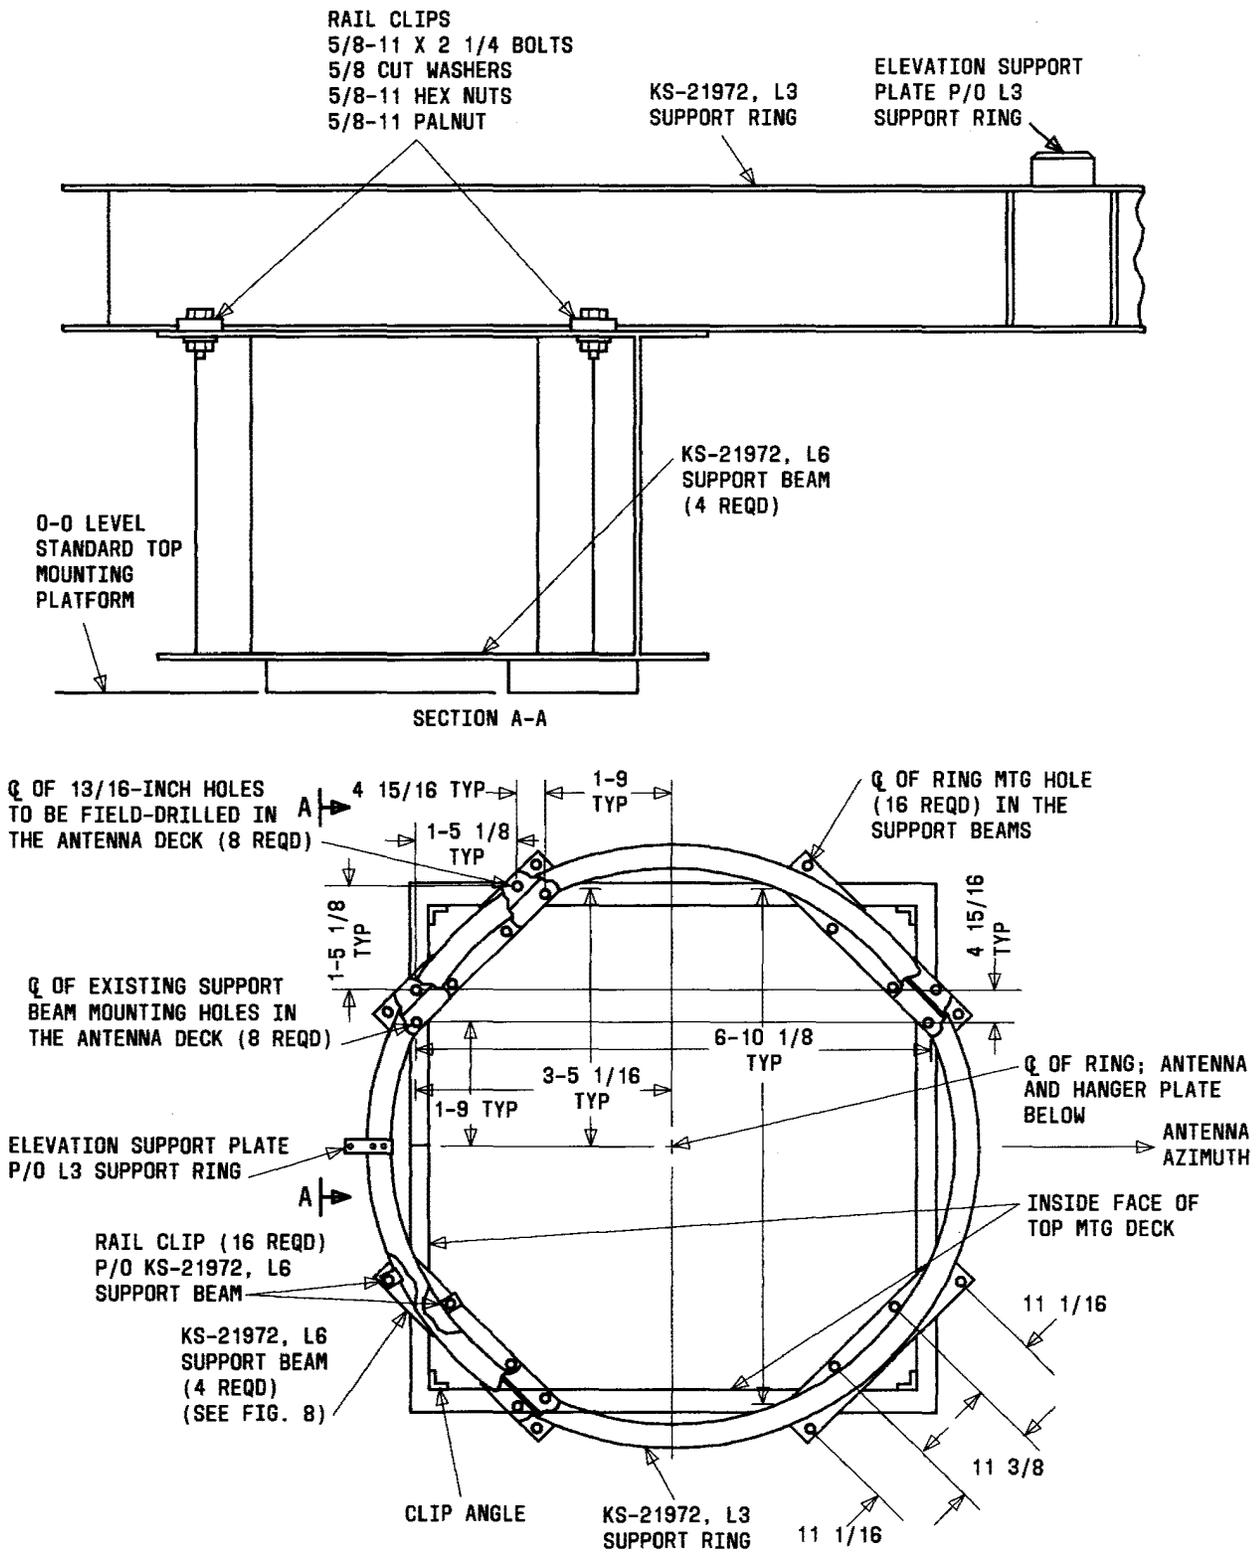

Fig. 9—Assembly of the KS-21972, L3 Support Ring to L6 Support Beams Mounted on a Top Antenna Deck
2.27 Hoist the support beams (four required), provided in List 6, to the antenna deck. Check to be sure that each of the four framing members which form the sides of the antenna deck are level and flat within $\pm 1/16$ inch of each other. Also check to be sure that the deck opening has the correct dimensions in accordance with Fig. 9. The clip angles will permit adjustment where required.
I. Assembly of List 3 to List 6 (See Fig. 9)